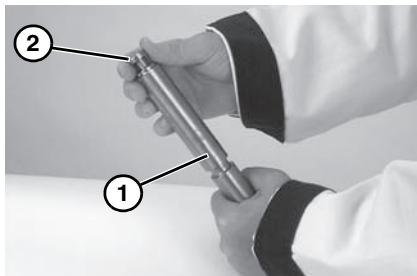

Figure 43
2. Inspect spindle (**Figure 43, item 1**). Replace if worn.
3. Slide bearing (**Figure 43, item 2**) onto spindle.